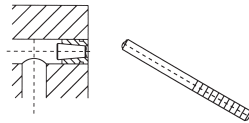

Fig. 3
3. When correctly installed, the tapered portion of the mandrel will be below the sleeve surface. (Fig. 3)